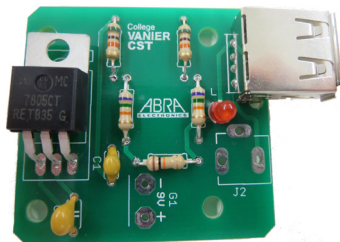

Fig. 8
8. Install and solder the X1 USB connector as per fig. 8. Bend the two tabs to lay flat on the PCB.